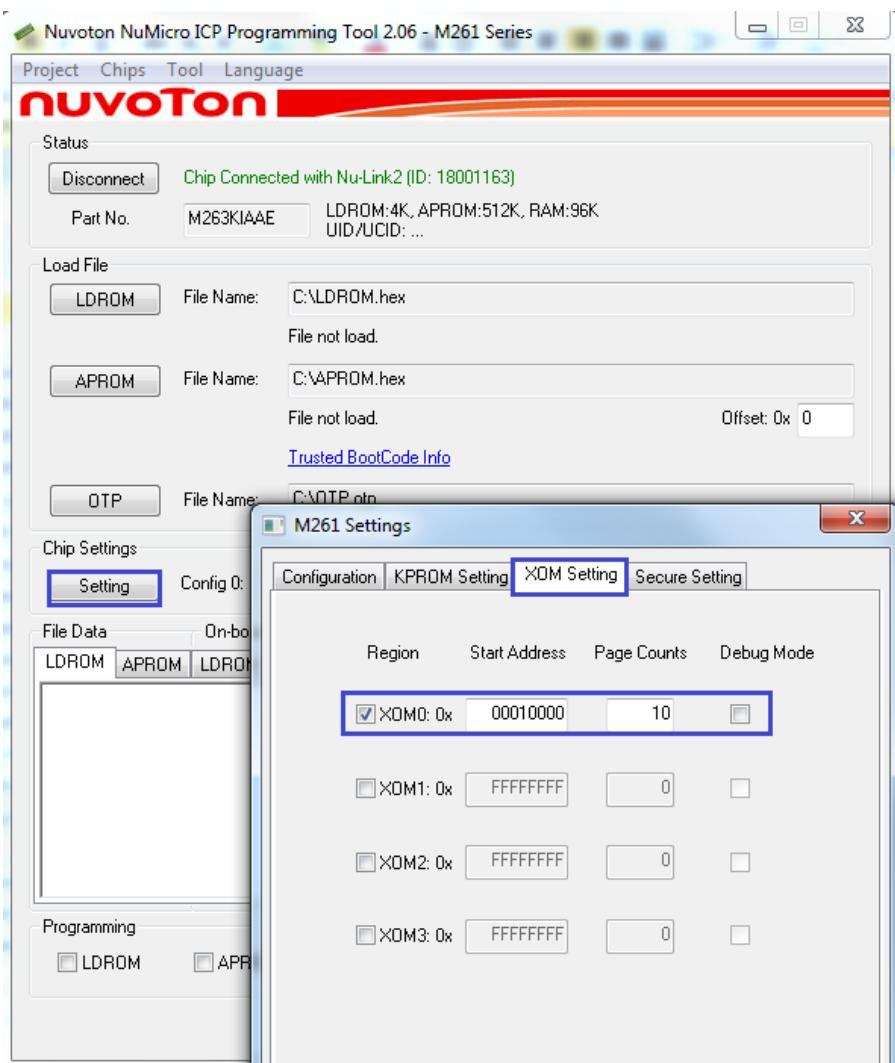

Figure 4-1 Open M261 Settings and XOM Setting
2. Click “Setting” button to open the “M261 Settings” page, as shown in Figure 4-1.